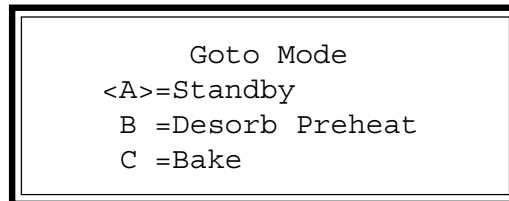

Figure 6-48 Go To Mode Screen
- a. Press A at the Goto commands screen to display the Goto Mode screen (Figure 6-48).